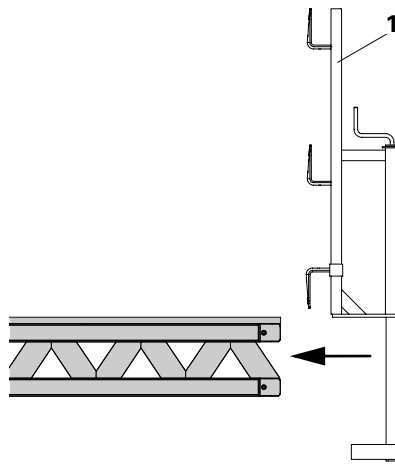

Fig. A4.02
1. The area for the support (1.6) must be clean and completely flat. (Fig. A4.02)